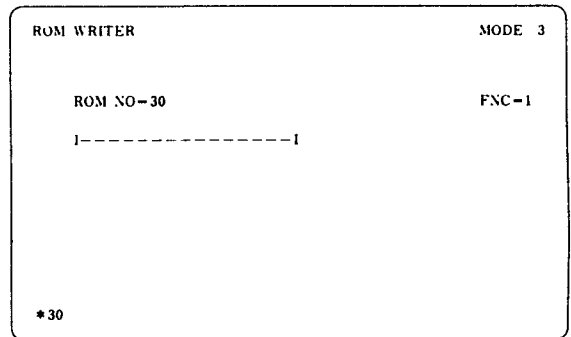

Fig. 9.26
- vi. Key-in a desired 2-digit P-ROM location number (noted numbers in procedure iv.) from editing panel. When the **3**, **0** and **WR** keys are keyed-in, display as shown in Fig. 9.26 will appear.